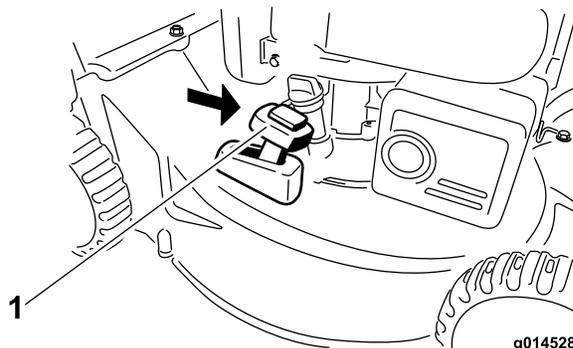

Figure 20
2. Install the grass bag; refer to Removing the Grass Bag \(page 12\) and move the bag-on-demand lever to the **bagging** mode (Figure 20).
**Note:** If the grass bag is on the machine, remove it before rear-discharging the clippings; refer to Removing the Grass Bag \(page 12\). The bag-on-demand lever should be in the **bagging** mode (Figure 20).